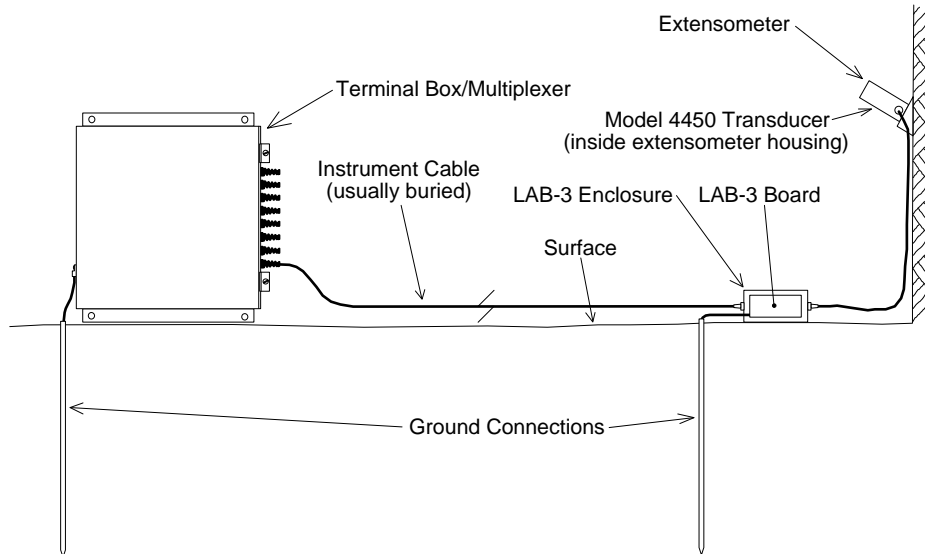

Figure 2 - Lightning Protection Scheme
- Lighting arrestor boards and enclosures are available from Geokon that install near the instrument. The enclosure has a removable top so, in the event the protection board (LAB-3) is damaged, the user may service the components (or replace the board). A connection is made between this enclosure and earth ground to facilitate the passing of transients away from the gage. See Figure 2. Consult the factory for additional information on these or alternate lightning protection schemes.